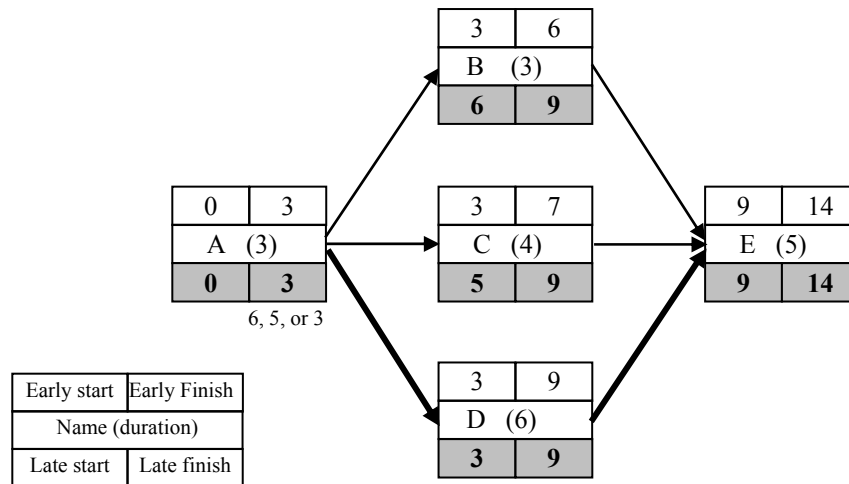

Figure 4.10: Backward path in PDM analysis
Once the forward path is finished, the backward path can start, moving from the last activity to the first, putting the calculations in the bottom two boxes of each activity, as shown in Figure 4.10. The process is as follows:
- We start at the last activity E and we transfer the early-finish value to become the activity's late-finish (LF) time. Then, subtracting the activity's own duration, the late-start (LS) time is calculated as time 9 and put in the bottom left box of the activity.
- Moving backward to activities B, C, and D all have one successor (activity E) with LS time of 9. The LF of all these activities becomes time 9. Each activity then has its own LS time, as shown in Figure 4.10.
Critical activities can also be easily determined as the ones having zero float times, activities A, D, and E. The critical path is then shown in bold as Figure 4.10. The PDM analysis, as explained, is a straight forward process in which each activity is considered as an entity that stores its own information.